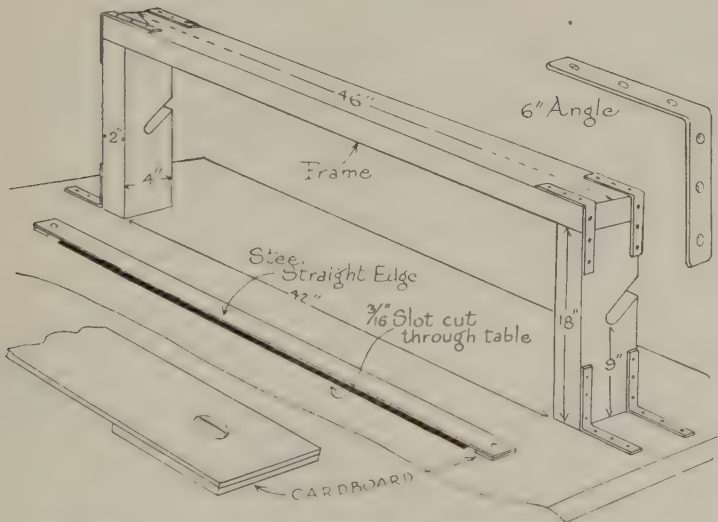

FIG. 93—CONSTRUCTION DIAGRAM OF FRAME, CORNER IRONS, SLOTS FOR ROD, CUTTING STRAIGHT EDGE AND KNIFE
2. The two uprights should be 18" long, and spaced 42" apart; the top piece nailed securely to the two uprights and reinforced with 1" wide iron straps bent at right angles, drilled and countersunk for screws, each angle 6" long. (Fig. 93.)
3. Before erecting cut two diagonal slots on the *outer* edge of the two uprights with centers 9" from table, slots $\frac{1}{2}$ " across (to take $\frac{3}{8}$ " steel rod). (Fig. 93.)
8. Assemble and erect rack at far side (or at end of table if table is wide enough for 50" area needed for rack). (Fig. 93.)